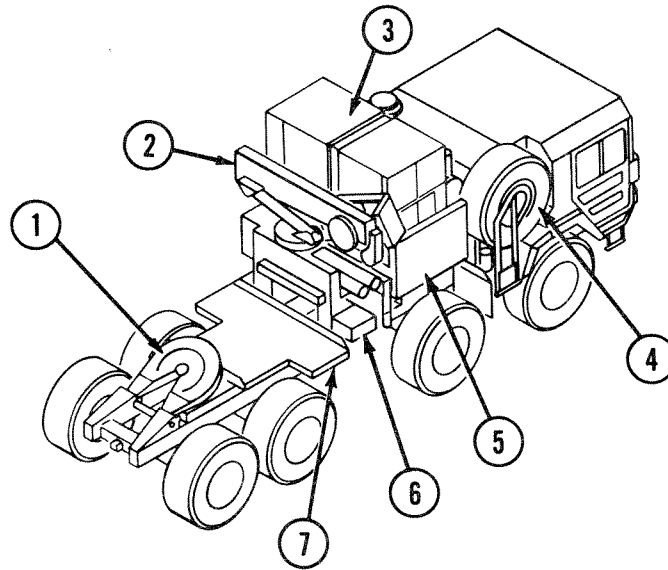

Figure 2-15. M1001 Tractor Major Features
a. *M1001 Tractor.* Figure 2-15 shows M1001 tractor major features. For more information on the M1001 tractor, see TM 9-2320-282-10.